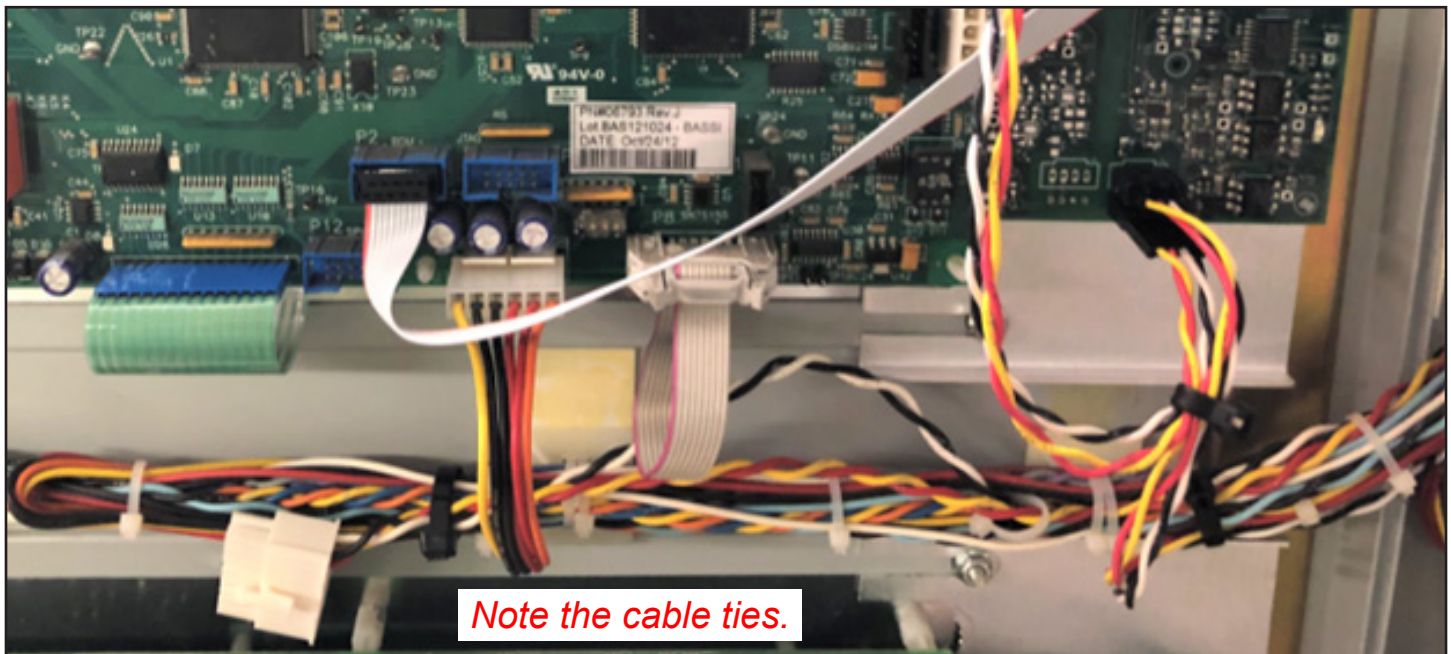

Figure 10 Disconnected BMID Connector J13(P13) and BMID Cable Tied Securely to the Harness with Cable Ties For Channel A cables
7. Disconnect the BMID connector J13(P13) from the Channel A of DVS100/DVS150 control board and tie it along with the attached BMID cable securely to the harness with provided cable ties (Figure 10).